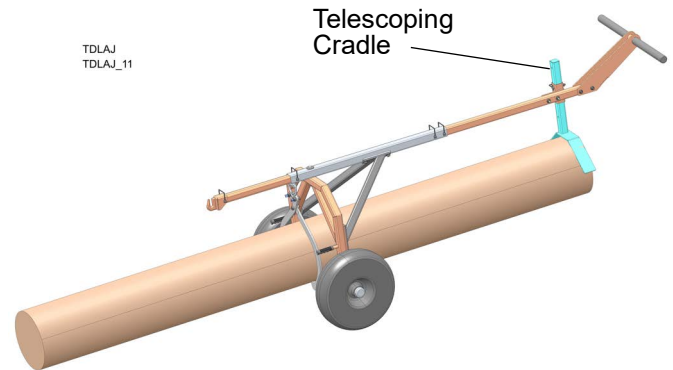

FIG. 4-3
5. Adjust Telescoping Cradle to level out log, as shown in FIG. 4-3.